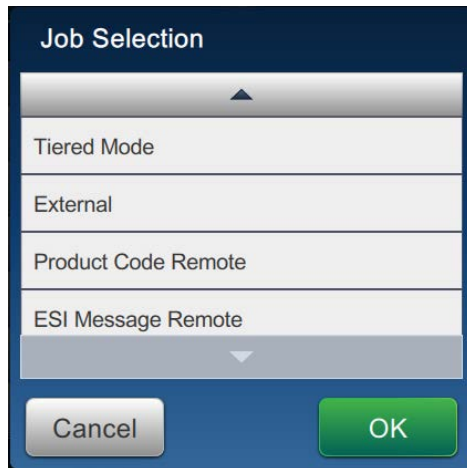

Figure 7-11: Job Selection Screen
4. Touch the *Job Selection* drop down list from the Job Select screen. The Job Selection screen is shown in Figure 7-11.
5. Select *ESI Message Remote* option from the Job Selection screen as shown in Figure 7-11. Touch the OK button to confirm the selection.